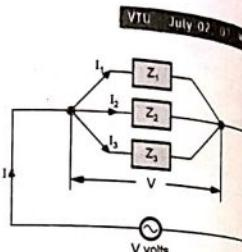

Fig. 3.8.1 A.C. parallel circuit
- The Fig. 3.8.1 shows a parallel circuit consisting of three impedances connected in parallel across an a.c. supply of V volts.